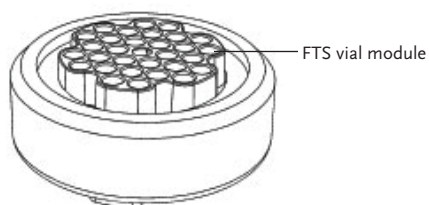

Figure 8
- Insert the plastic FTS Vial Module into the base and make sure that the skirt of the module is evenly seated on the foam shelf. Place 30 cryovials containing 1 ml of freezing medium into the module. Alternatively, the FTS Vial Module may be filled with vials remotely and then placed into the CoolCell FTS30 base. **(IMPORTANT: Do not place a vial in the center hole of the vial module. The center hole is part of the ventilation pathway and must not be blocked.)** (Fig. 8 and 9)